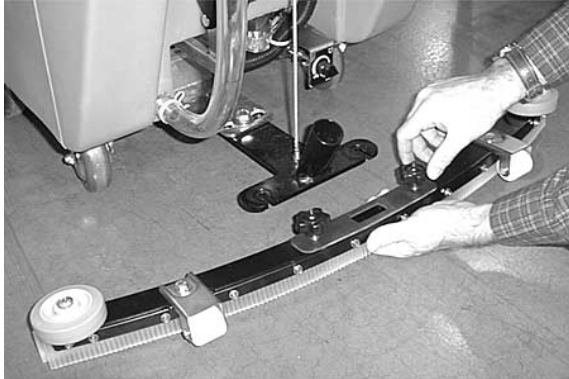

FIG. 4
- Loosen two thumb knobs on squeegee assembly and slide squeegee into slots on squeegee mount bracket. Squeegee roller wheels should face outward (*Figure 4*).